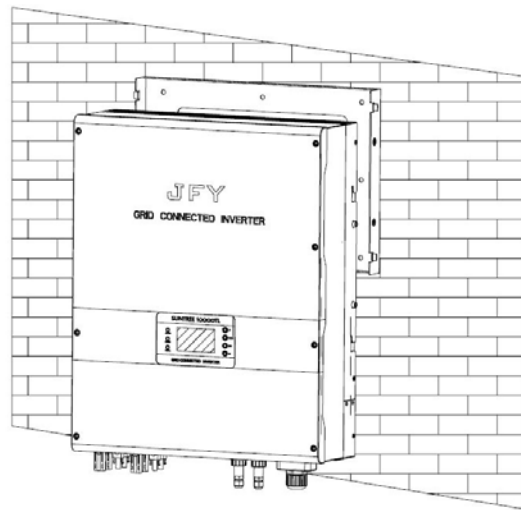

Fig.5 Hang inverter to mounting frame
Step3: Fix safety-lock screws at upper-left side and upper-right side as illustrated in Fig.5 with the attached socket head wench.